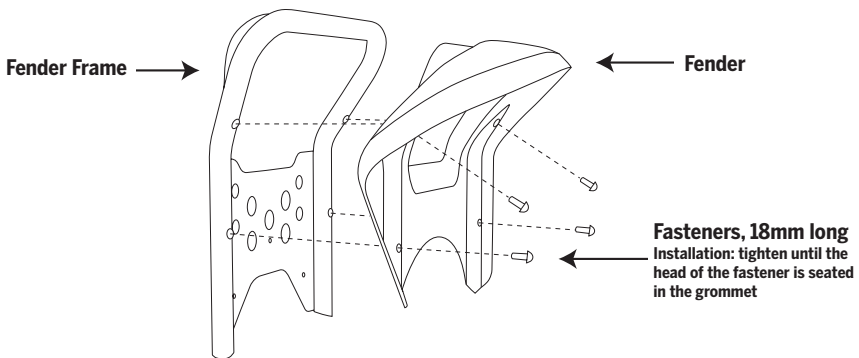

Figure 2. Removing or Installing the Fender and Fender Frame.
4. To remove the Fender from the Fender Frame, remove the (4) 18 mm fasteners using a 4 mm hex wrench. See Figure 2.
5. To re-install the Fender to the Fender Frame, thread the (4) 18 mm long fasteners, included with this kit, through the Fender into the Fender Frame. Using a 4mm hex wrench, tighten until the head of the fastener is seated in the grommet. Once seated, turn another ½ to 1 full turn.
6. To re-install the Fender & Frame Assembly to the PT, thread the (3) 28mm long fasteners, included with this kit, through the Fender & Frame Assembly into the gearbox cover. Using a 4mm hex wrench, torque to 6.0 N-m (4.4 ft-lbf).